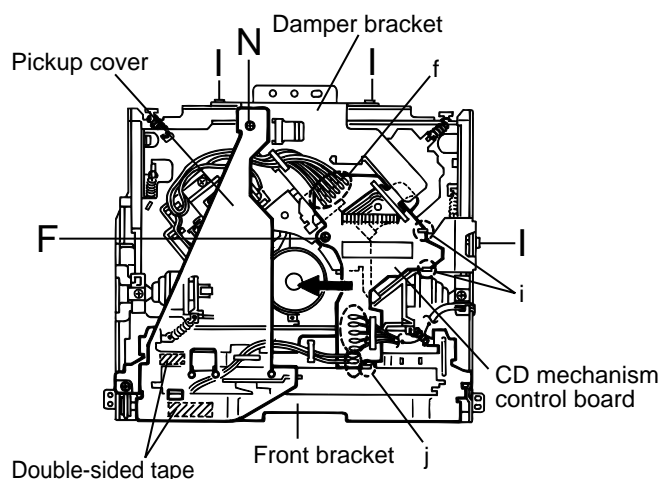

Fig.1
■ Removing the CD mechanism control board (See Fig.1 and 2)
■ Removing the CD mechanism ass'y (See Fig.1, 6 to 9)